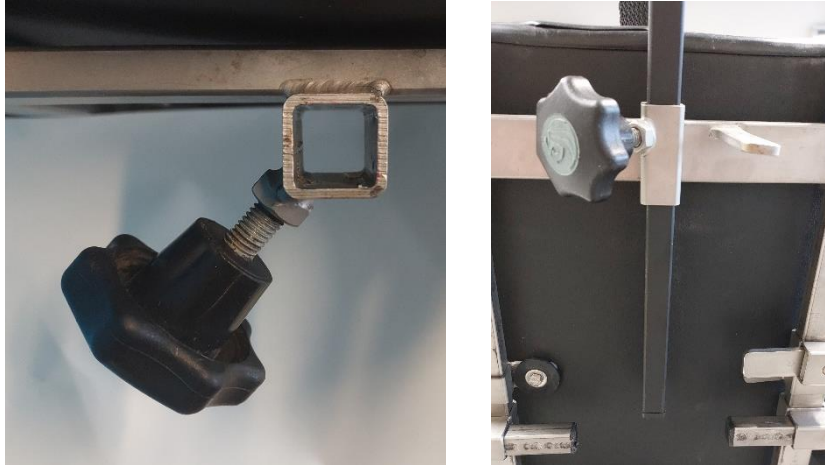

Figure 10. 15 x 15mm square holder.
2. Install the vertical adjuster of CoMoveIT Smart to the holder of the back of the wheelchair seat and tighten the rotary knob. CoMoveIT Smart can fit in any 15 x 15mm square holder. See Figure 10.